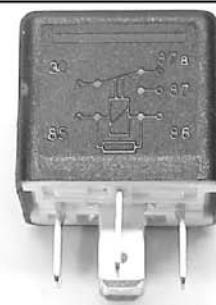

Figure 14
2. Switch: Terminals 30, 87, and 87a are actually part of a single pole, double throw (SPDT) switch. Terminal 30 is the common lead. The switch is spring loaded so that 30 and 87a are connected when the coil is not energized. When the coil is energized, the switch is "thrown" and 30 and 87 are connected (Figure 14).